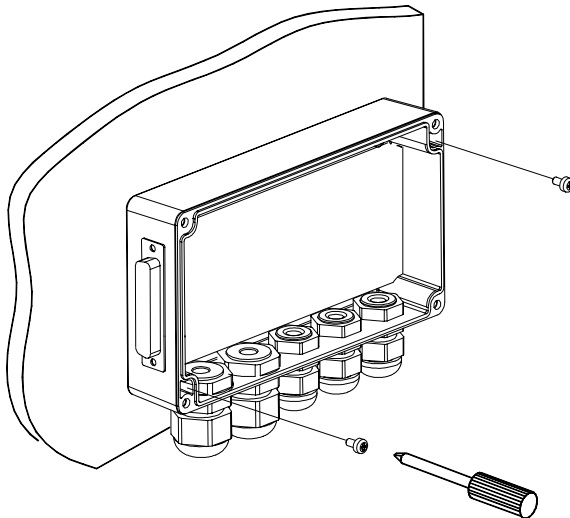

Figure 4 - Mounting C-BOX 100
C-BOX 100 can be installed to operate in different positions. The two screw holes inside the housing of the C-BOX 100 are for mechanical fixture (Figure 4).
- 2) Align the C-BOX 100 and insert two screws and screw them into the panel until tight (see Figure 4).